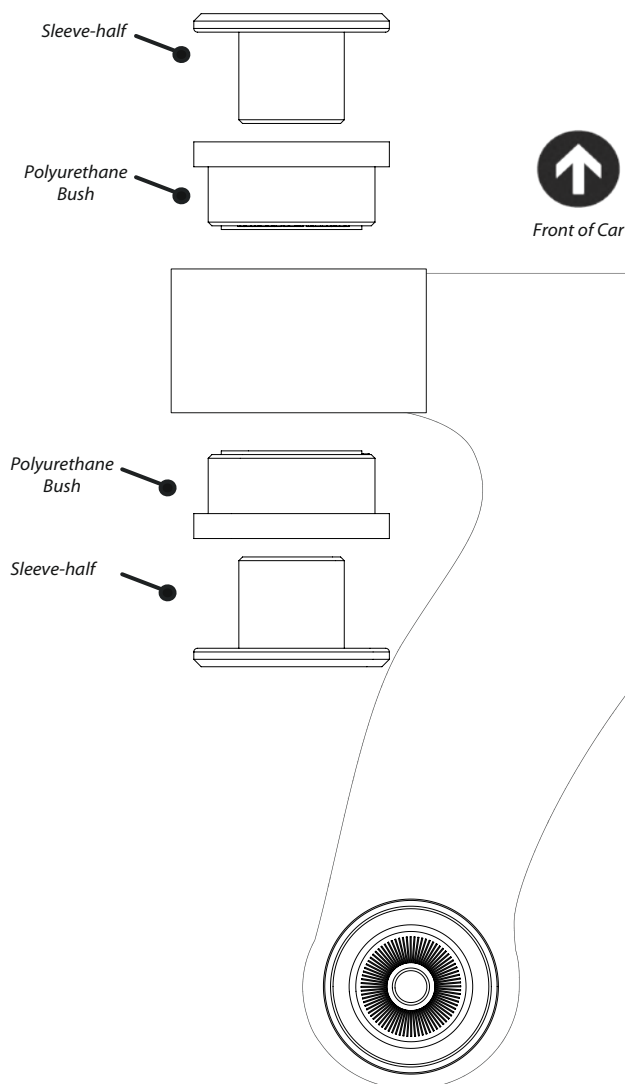

Figure 1
4. Push the Polyurethane bushes into place in the wishbone bores. (Figure 1)